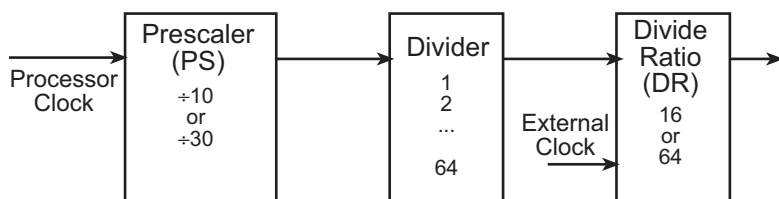

Figure 4-16. Baud-Rate Generator
The prescaler (PS), the divide ratio (DR), and the SS bits form a baud-rate generator (see Figure 4-16).